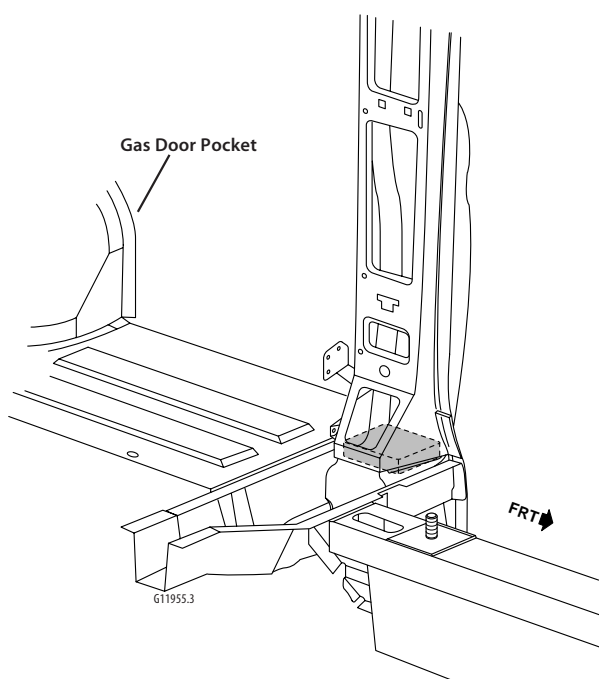

Figure 5-3:
7. Install sealers, sound deadeners, and foam baffles in the service door frame opening as noted from the removal procedures (figure 5-3). Apply anti-corrosion protection materials, as necessary. Do not combine paint systems. Refer to paint manufacturer's recommendations.